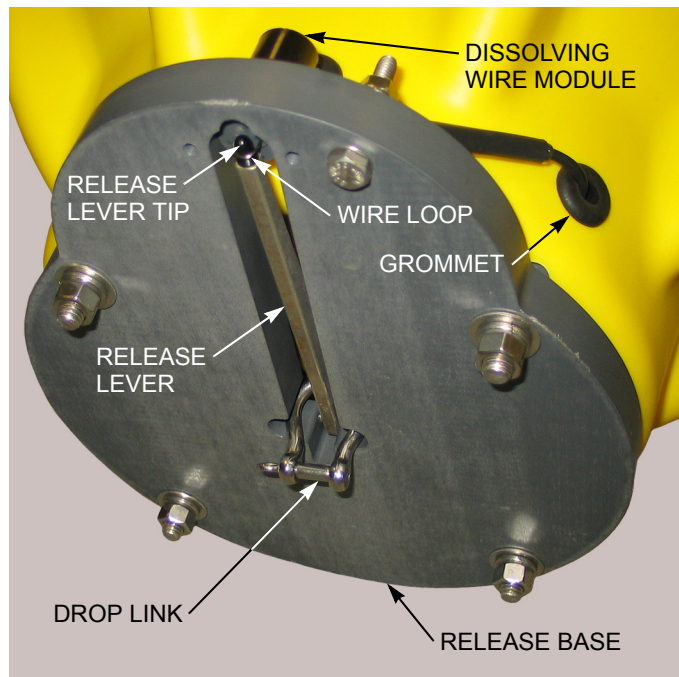
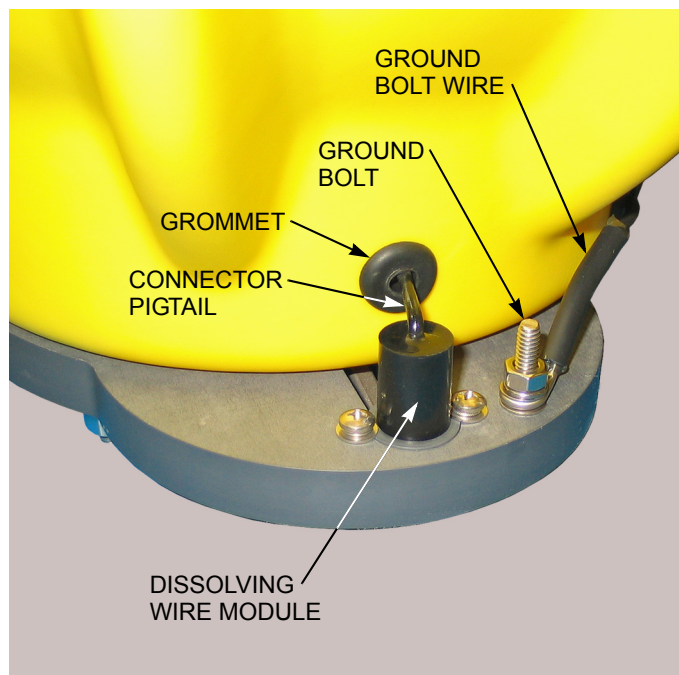

Figure 1-7 Release Base with Dissolving Wire Module, Release Lever and Drop Link
Figure 1-8 Dissolving Wire Module and Ground Bolt
The release mechanism includes a release base with a dissolving wire module, a release lever, and a drop link as shown in Figure 1-7 and Figure 1-8. The release lever also includes a replaceable tip. The release mechanism is attached directly to the bottom half of the hard hat. The dissolving wire module includes an Inconel wire loop that serves as the anode—and a ground bolt, which is shown in Figure 1-8, serves as the cathode—in an electrical circuit that is energized when the SM-75 is commanded to release. When energized, the wire loop dissolves, the release lever drops, and the drop link slides away, releasing the SM-75 from its mooring.
3. Attach the positive lead of the multimeter to the wire loop of the dissolving wire module. The wire loop is shown in Figure 1-7 on page 1-8.
4. Attach the negative lead of the multimeter to the ground bolt. The ground bolt is shown in Figure 1-8 on page 1-8.